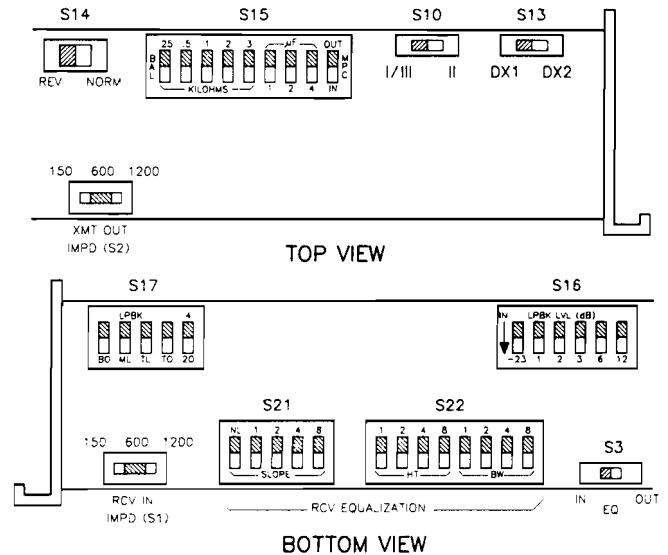

figure 1. Issue 2 6166/X option switch locations
1.03 When optioning the Issue 2 6166/X module, please disregard the terminating-impedance optioning information in paragraph 3.07 and table 4 of the attached practice. Instead, refer to figure 1 of this addendum and set the module's *RCV IN IMPD* and *XMT OUT IMPD* option switches (S1 and S2, respectively) as follows:
1.04 When setting switch options on the Issue 2 6166X module, be certain to set the receive-equalizer bypass switch (EQ IN/OUT, S3) as follows (see figure 1 of this addendum for the location of S3):